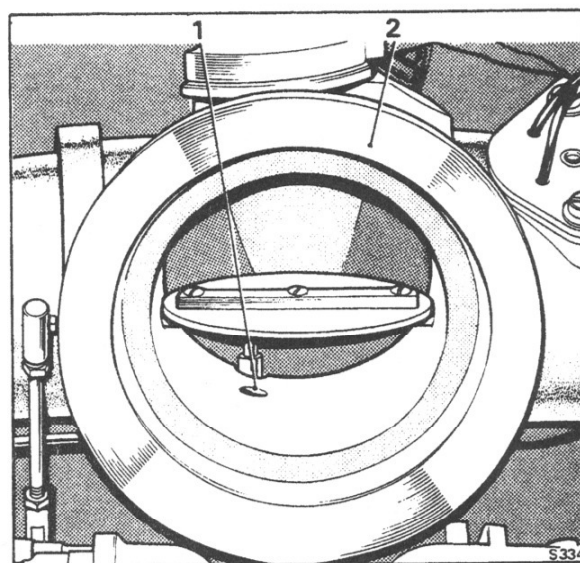

Fig. K85 Hot idle mixture compensator feed
2. Remove the air intake, blank off the hot idle compensator feed drilling (see Fig. K85) and replace the intake.